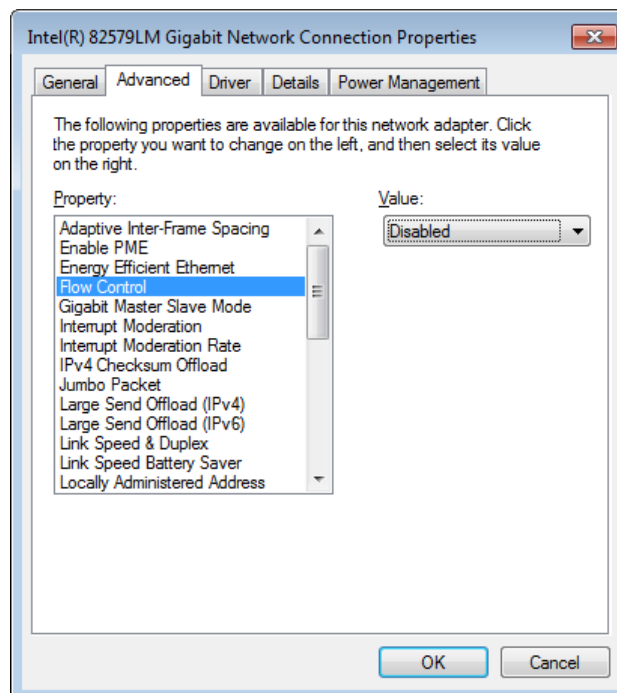

Figure 120: Network interface card - advanced driver settings - Flow Control
4. The settings of the driver can be accessed by choosing the *Advanced* tab of the opened window. As shown in Figure 120 , set the value of the *Interrupt Moderation Rate* property to *Disabled*.